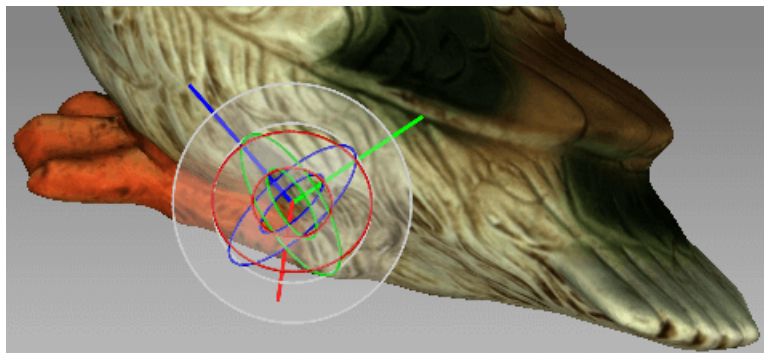

Figure 167: Rotation control
- Drag one of the three circles (see Figure 167) to rotate the object. Hitting the key that corresponds the required axis (**X**, **Y** or **Z**) will hide the controls for the other axes.